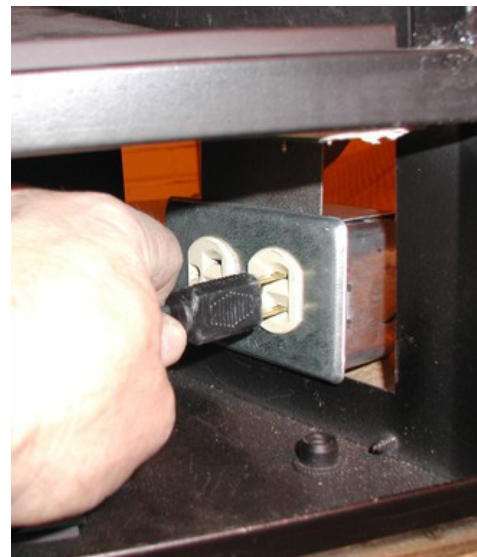

Figure 14
- Plug the power cord into the junction box receptacle as shown in Figure 14.